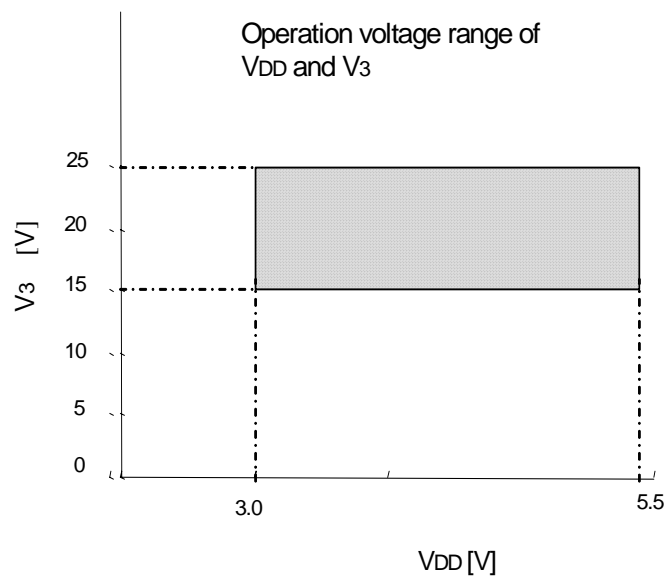

Fig.9.4
- \*2 For operating voltage range of  $V_{DI}$  series and  $V_3$  series, see Fig.9.4.